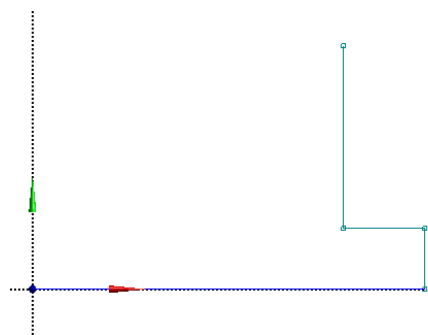

Figure 3-26 Specifying the endpoint of line 4
14. Move the cursor upward to some distance; the symbol of Vertical constraint (**V**) is displayed along the cursor. Click to specify the end point of line 4, refer to Figure 3-26.